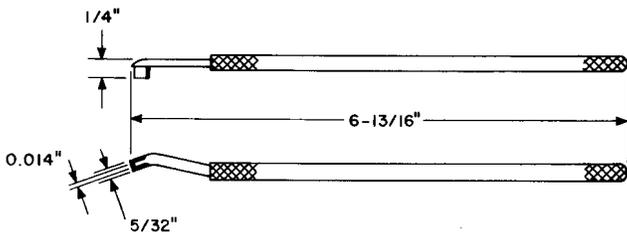

Fig. 4—524B Adjuster Tool
2.04 **524B:** The 524B tool (Fig. 4) is a spring adjuster used on 245-, 254-, 263-, and 264-type relays.